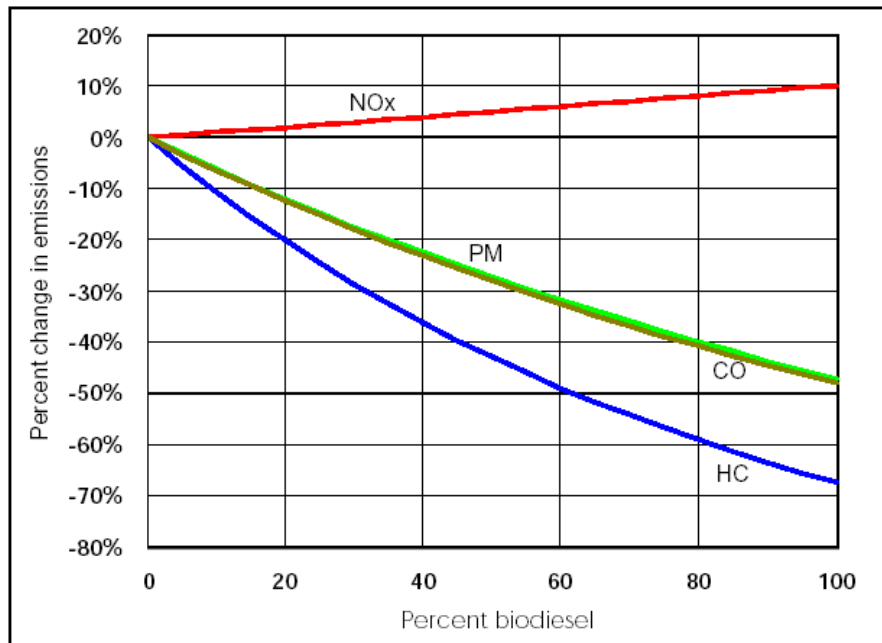

Figure 1. Average emission impacts of biodiesel fuels in CI engines⁶
Biodiesel reduces tailpipe particulate matter (PM), hydrocarbon (HC), and carbon monoxide (CO) emissions from most modern four-stroke CI engines. These benefits occur because the fuel (B100) contains 11% oxygen by weight. The presence of fuel oxygen allows the fuel to burn more completely, so fewer unburned fuel emissions result. This same phenomenon reduces air toxics, because the air toxics are associated with the unburned or partially burned HC and PM emissions. Testing has shown that PM, HC, and CO reductions are independent of the feedstock used to make biodiesel. The EPA reviewed 80 biodiesel emission tests on CI engines and has concluded that the benefits are real and predictable over a wide range of biodiesel blends (Figure 1, page 5).⁴
⁴ 39 studies were ultimately used in the EPA analysis in Figure 1.
In older two-stroke engines, B20 can reduce CO, HC, and PM if the engines do not consume excessive amounts of lube oil. If lube oil consumption is high, PM benefits from B20 use may be less than shown in Figure 1.